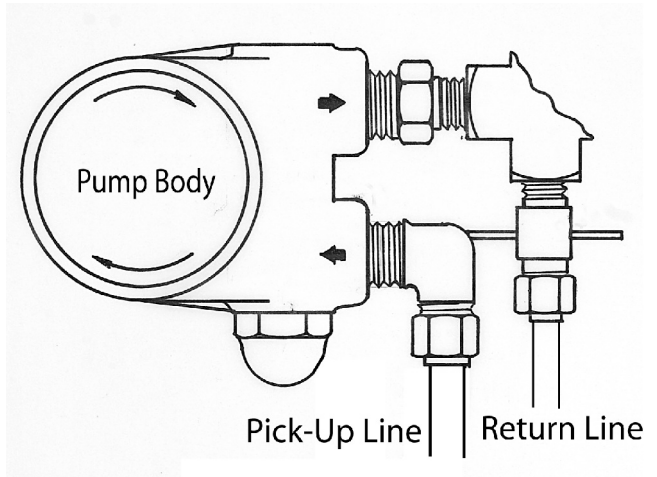

Fig 3
1. Take the Tubing end of the Pick-Up Check Valve with Filter and feed it up through the larger of the two holes in the Lid. Place the 3/8" Insert into the Tubing and push into the 3/8s Nut, tighten with wrench. (Fig. 3, pg. 6).
- Loosen the band clamp on the pump, tip it up to reach the adjustment screw that is located in the Cap on the bottom of the pump. (Fig. 3, pg 6)